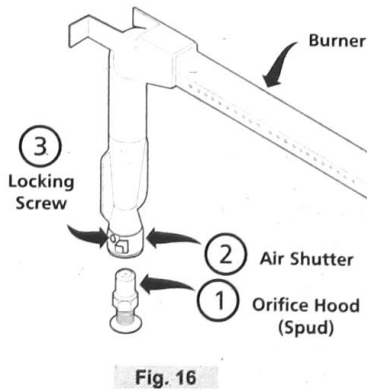

Fig. 16
- Turn off oven and allow to cool before adjusting air shutter. To adjust, loosen lock-screw (3), reposition air shutter (2), and tighten lock-screw (3) (See Fig. 16). Retest the burner by repeating step "d" above. When the burner flame is a distinct blue color burning steady, the air shutter is adjusted correctly.